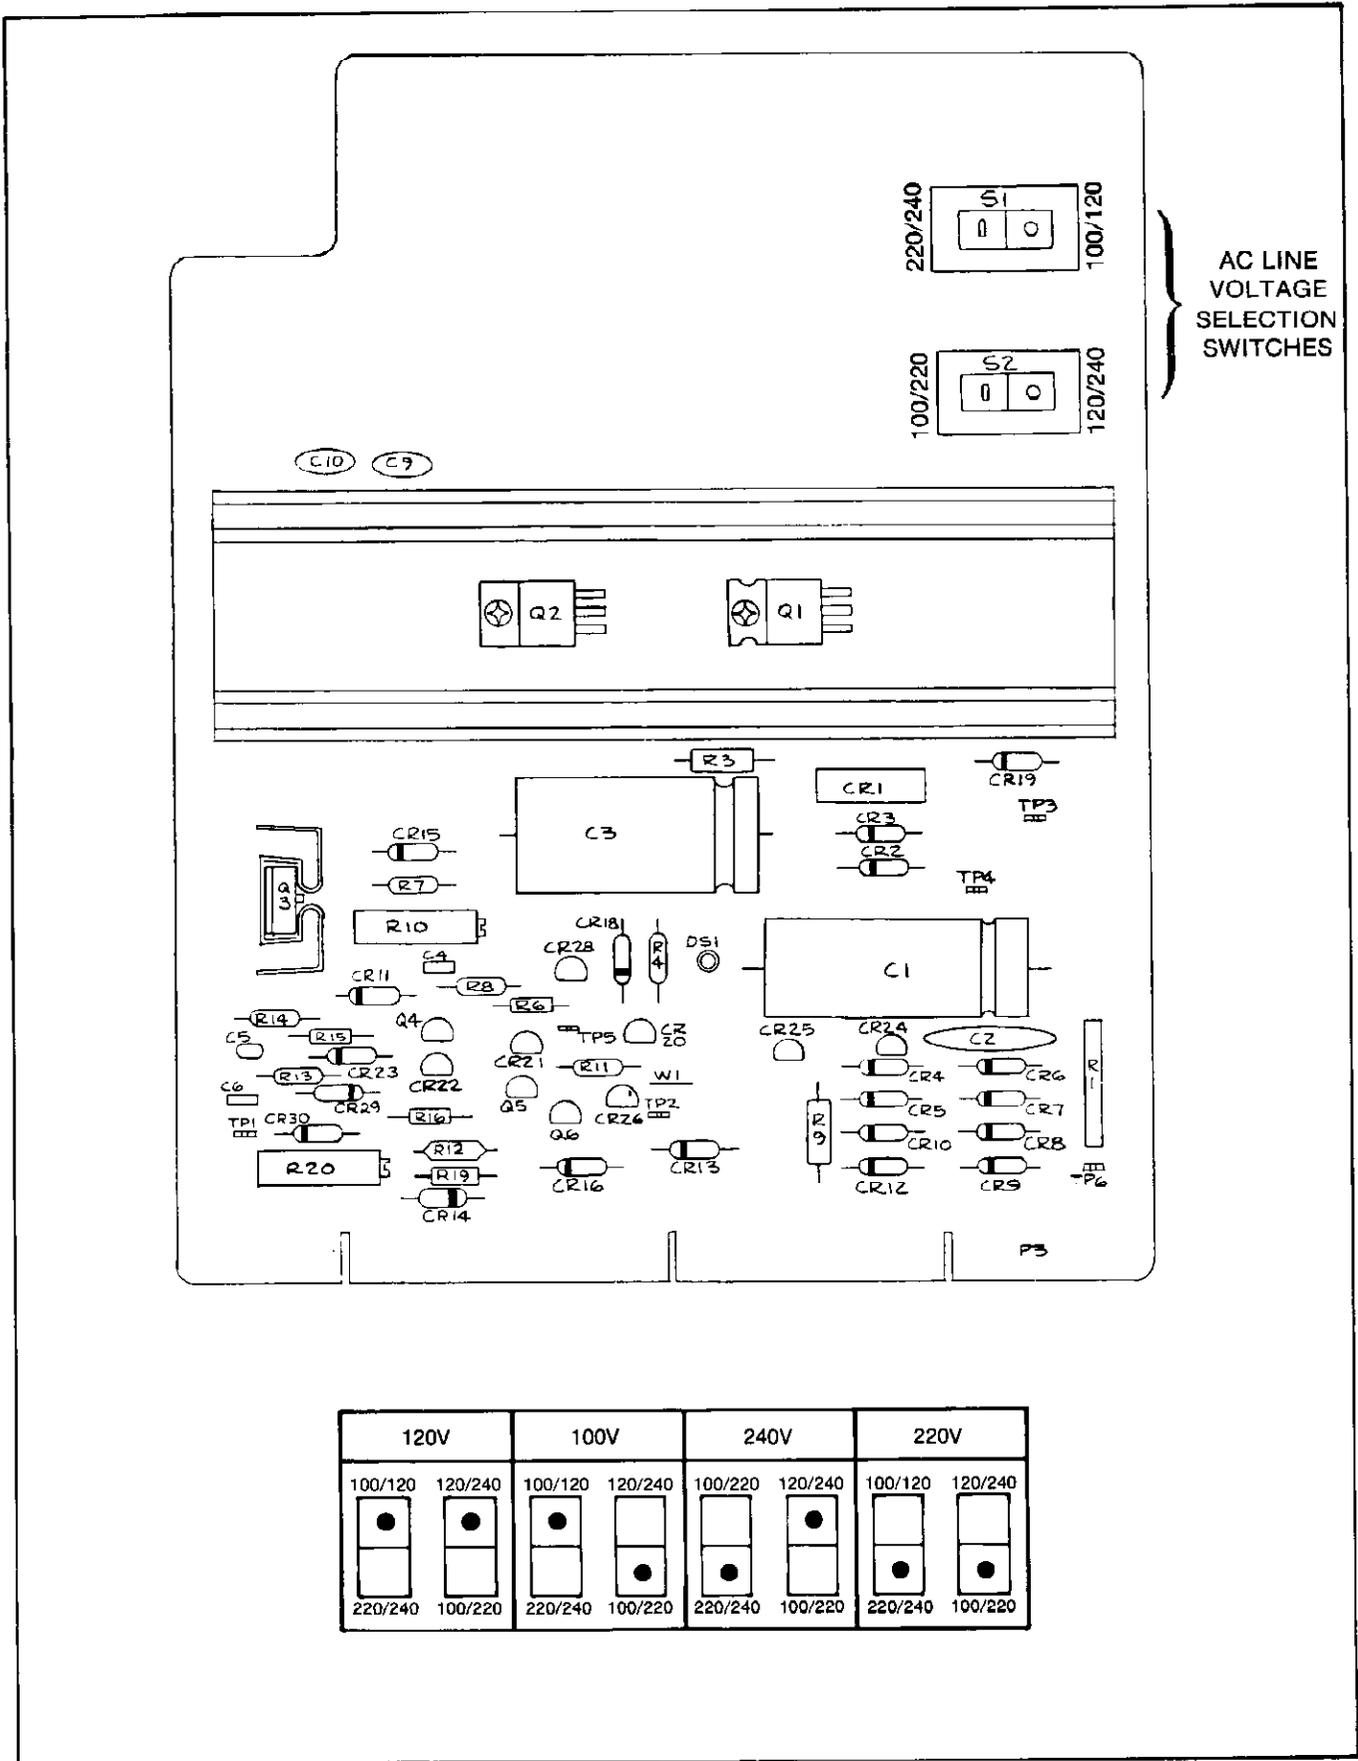

Figure 4-5. AC Line Voltage Conversion on A3 Pre-Regulator PCA
4-29. The 732A may be operated from 100V, 120V, 220V, or 240V ac $\pm 10\%$. The assigned line voltage may be changed to match the available source using the following procedure. Refer to Figure 4-5.
4. Locate the voltage selector switches (the slide switches on the top of pca near the rear panel). Set the switches so that the dots on the switch actuators select the correct line voltage, as shown in Figure 4-5.